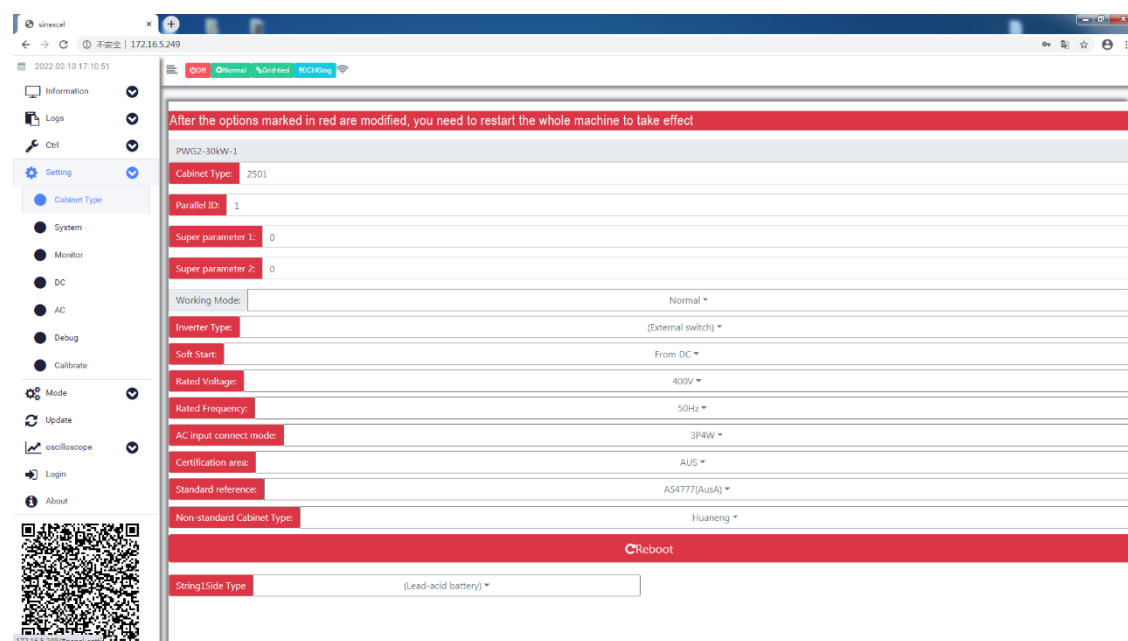

Fig 4-7 Model settings
(2) The converter is defaulted to operate in grid-tied mode. Close AC breaker D3.
(3) In the case of the first startup, the converter should first perform important parameter settings and confirmation. After completion, if the inverter is powered on again, this step can be skipped. First, click the "Settings" tab on the left side of the webpage, open the "Model Settings" to display the interface shown in Figure 4-7, and then confirm the rated voltage level and frequency level of the AC side and the incoming line of the AC side according to the actual situation of the local power grid. Then select the corresponding battery type in "branch 1 DC connection type" according to the battery type actually connected to the DC side of the machine; after the model parameters are set, click "restart the whole machine", the machine re-enters the initialization, and then waits for After the webpage is refreshed, the important model parameter settings are completed.